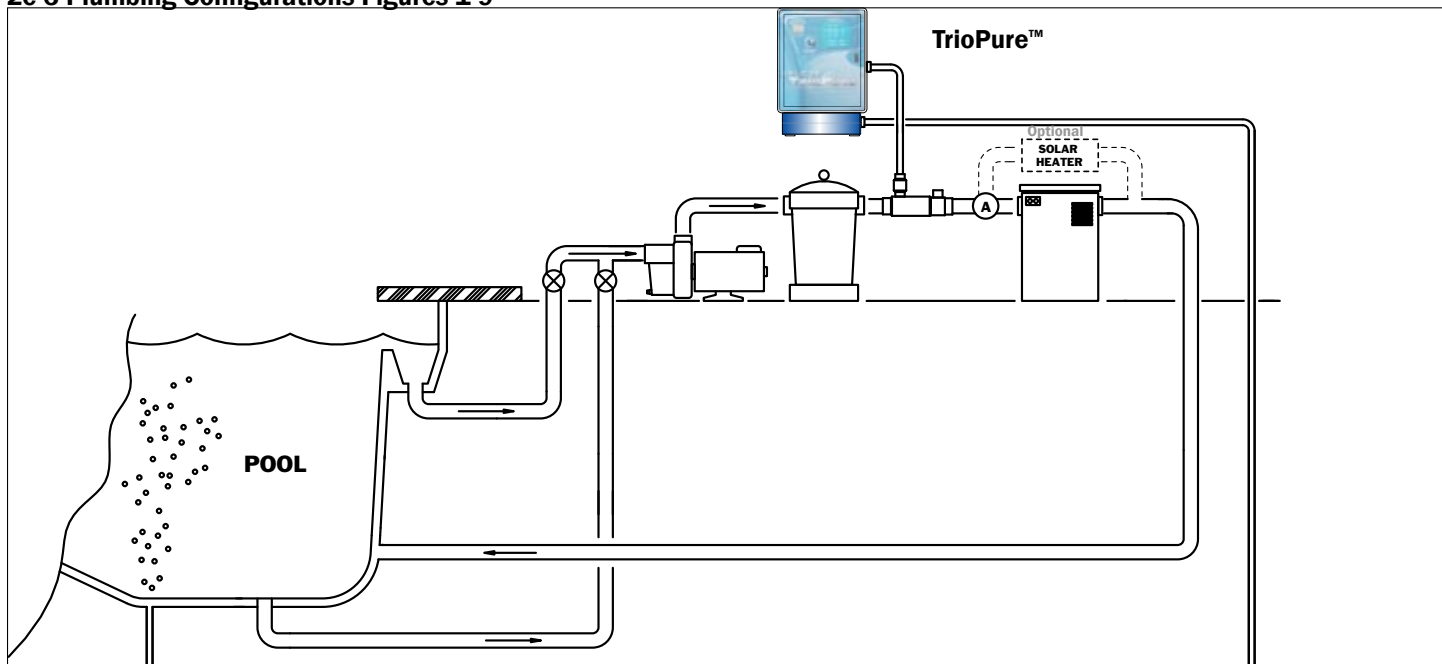

Figure 1 - (New Pool, Pool Only, No ICS, No Solar, Solar):
- If you use solar panels for pool heating, your TrioPure™ must be plumbed with the manifold before the solar heater, and the water return from the TrioPure™ after solar heater. The bubbles that can be created through your solar heater can inadvertently shut off the TrioPure-50. See Figures 1, 2, 3, 7, 8 and 9.
<p>If your pool is: New Pool Pool Only No ICS No Solar / Solar - See Figure 1</p>